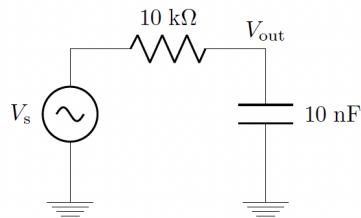

Figure 2: RC circuit.
- P2. For the RC circuit in Figure 2:
P3. For a CR highpass circuit (Figure 2, but with the resistor and capacitor swapped):